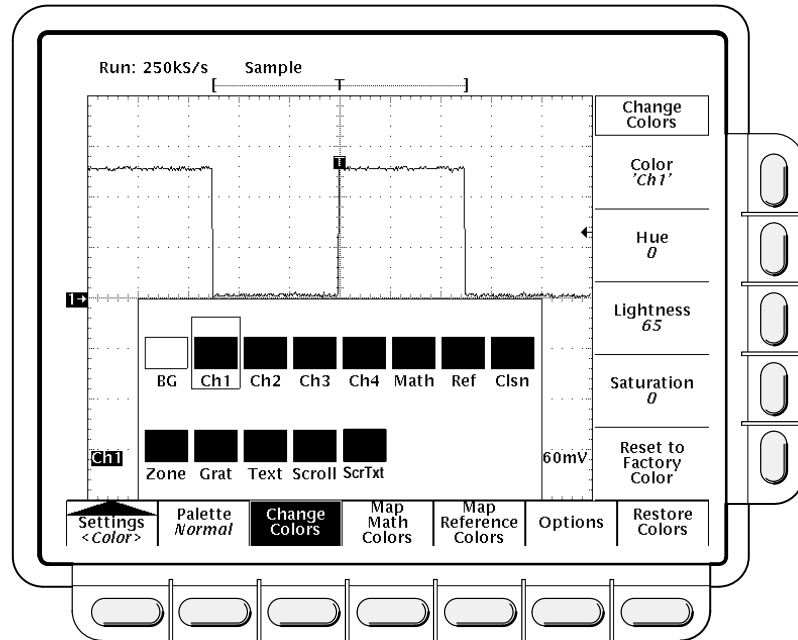

Figure 3-5: Display Menu — Palette Colors
1. Select the main menu **Change Colors** item (see Figure 3-5).